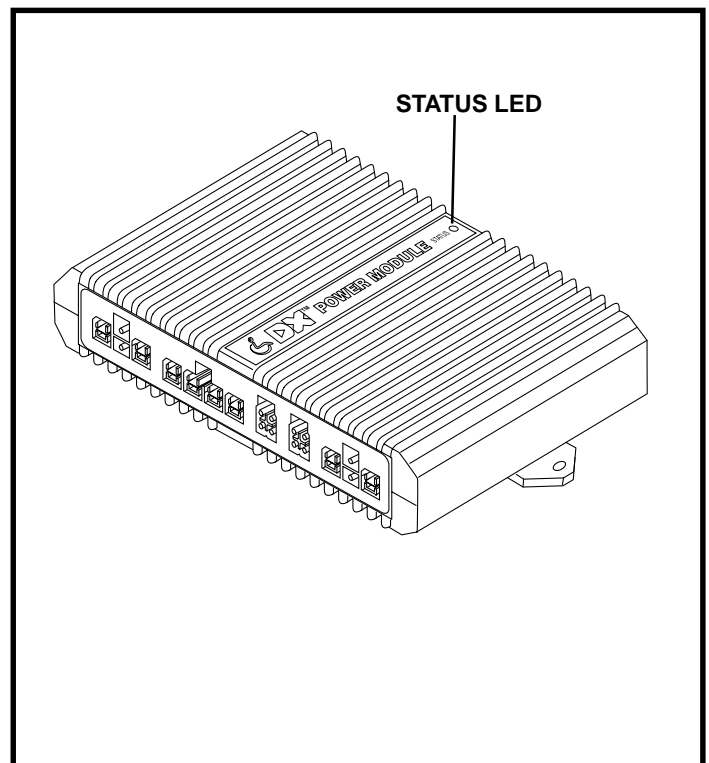

Figure 20. Dynamic Power Module
- *If the DX bus cable is not damaged*, look for a status light on the power module. **See figure 20.**
- *If the status light is flashing on the power module (4)*, then replace the power module (4) and retest the system.